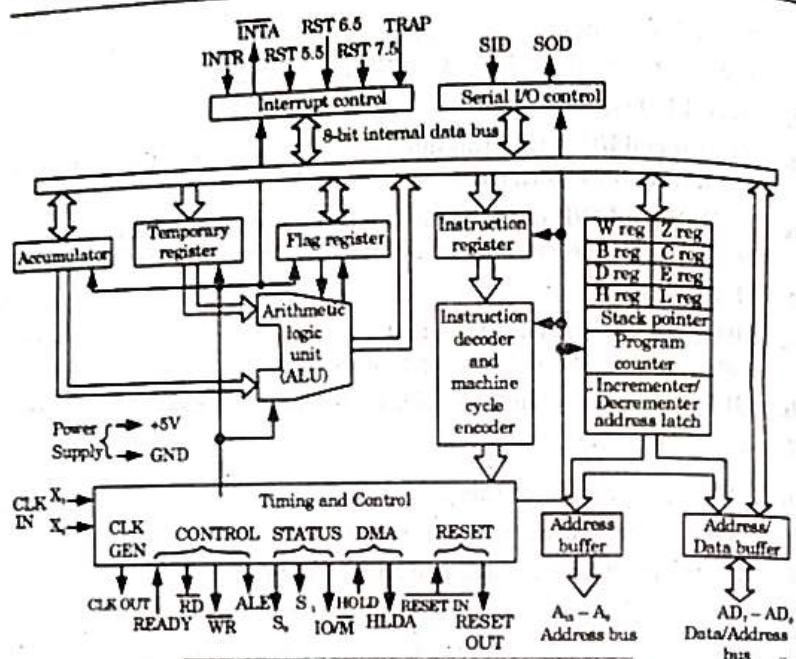

Fig. 1.14.1. Internal architecture of 8085.
- B. Internal architecture or functional block diagram : The 8085 is an 8-bit, general-purpose microprocessor that is ideally suited to many applications. Fig. 1.14.1 shows the architecture of 8085.